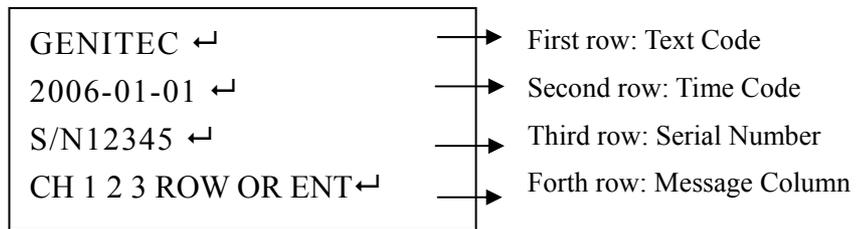

Figure 11
Step3. Inside setting size is 85mm×45mm. If your paper size is 70×30mm , need to modify inside paper dimension setting. Press the button  . (Refer to figure11)